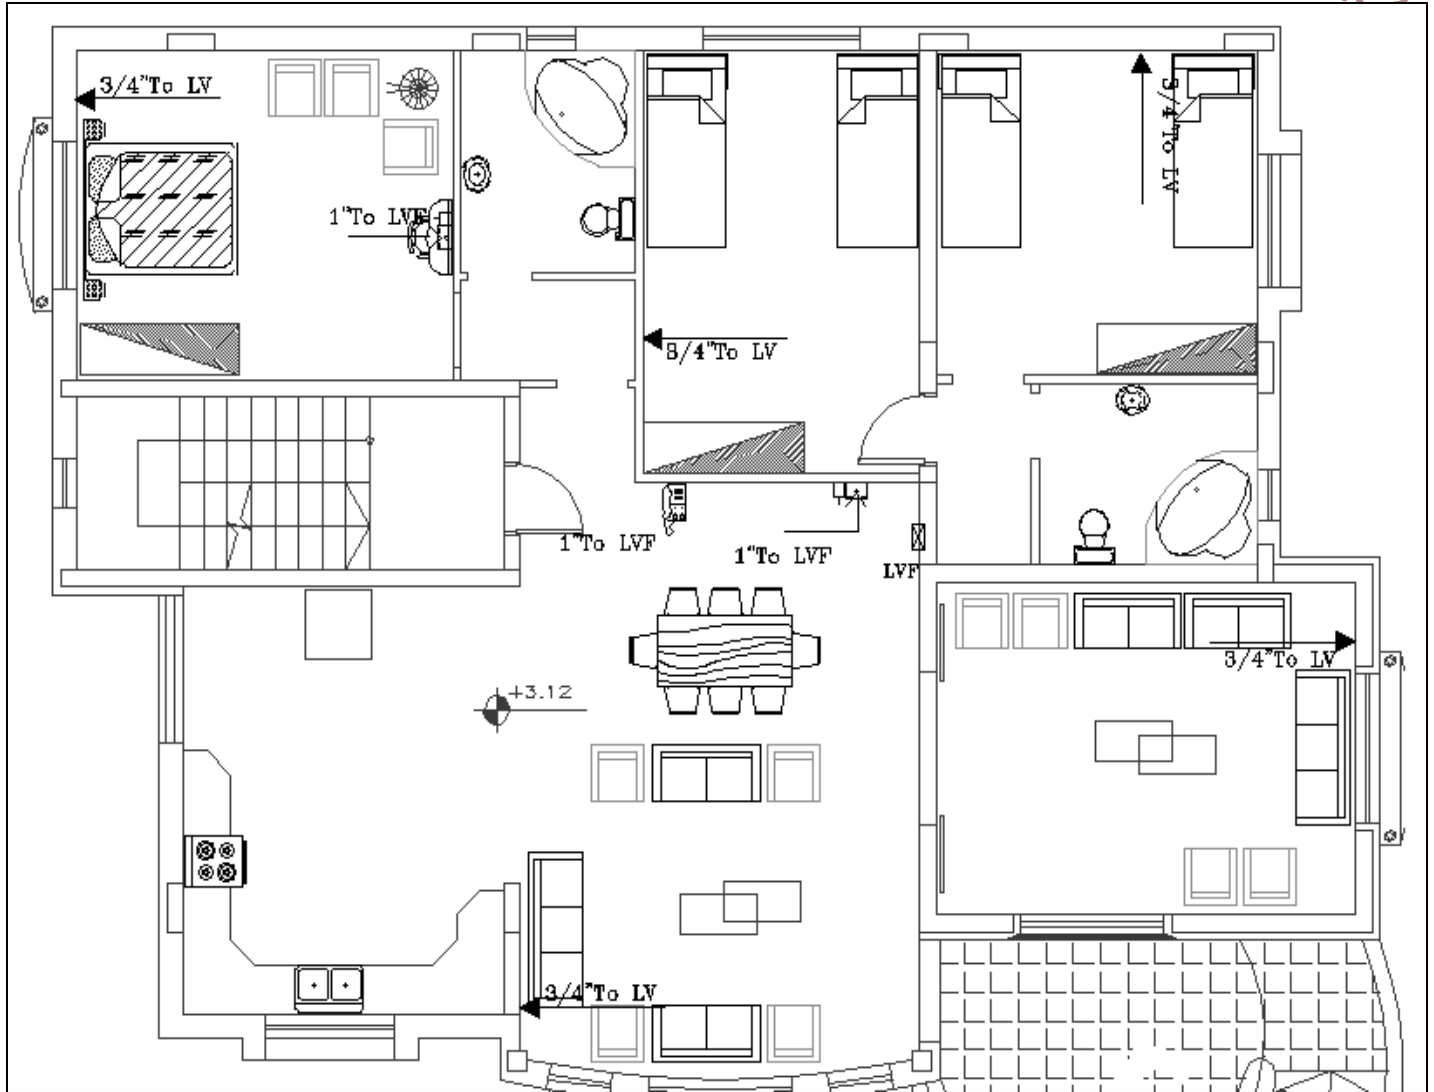

Figure 3.3 ELV Plan of a house design
2. Distribute the audio, Video, Telephone, Intercom, Alarm System, for Kitchen, Living room, Guest room, and Bedrooms as in Figure 3.3, then draw your distribution in the copy of the design.